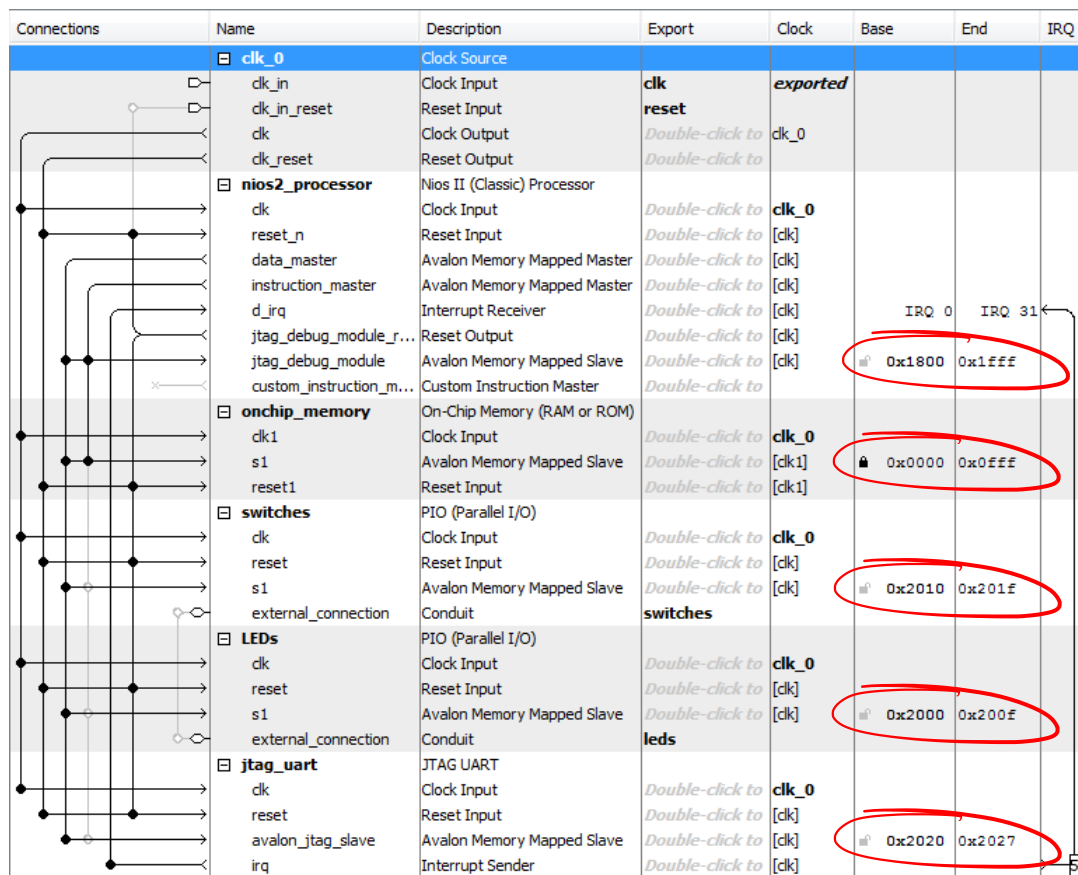

Figure 18. The complete system.
14. So far, we have specified all connections inside our *nios_system* circuit. It is also necessary to specify connections to external components, which are switches and LEDs in our case. To accomplish this, double click on Double-click to export (in the Export column of the System Contents tab) for external_connection of the switches PIO, and type the name *switches*. Similarly, establish the external connection for the lights, called *leds*. This completes the specification of our *nios_system*, which is depicted in Figure 18.